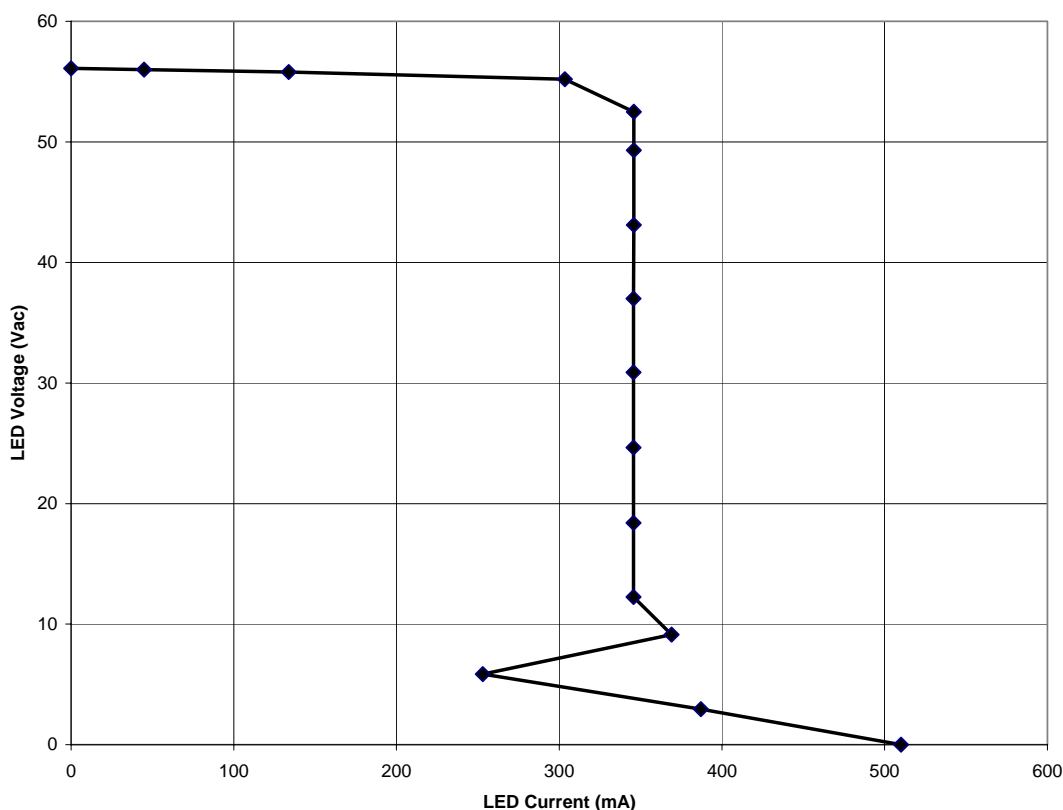

Figure 1
4. Adjust the electronic load from no load slowly up until the output voltage reduces to between 36.5 and 37.5 volts. The output current should be within the range of 332 to 368 mA. Record the measured load current for future reference. Input power should be less than 16.8 watts. Figure 1 shows a typical voltage/current regulation curve for this driver operating at 115 Vac input. The output ripple on the oscilloscope should be less than 1.5 V peak-to-peak including spikes.